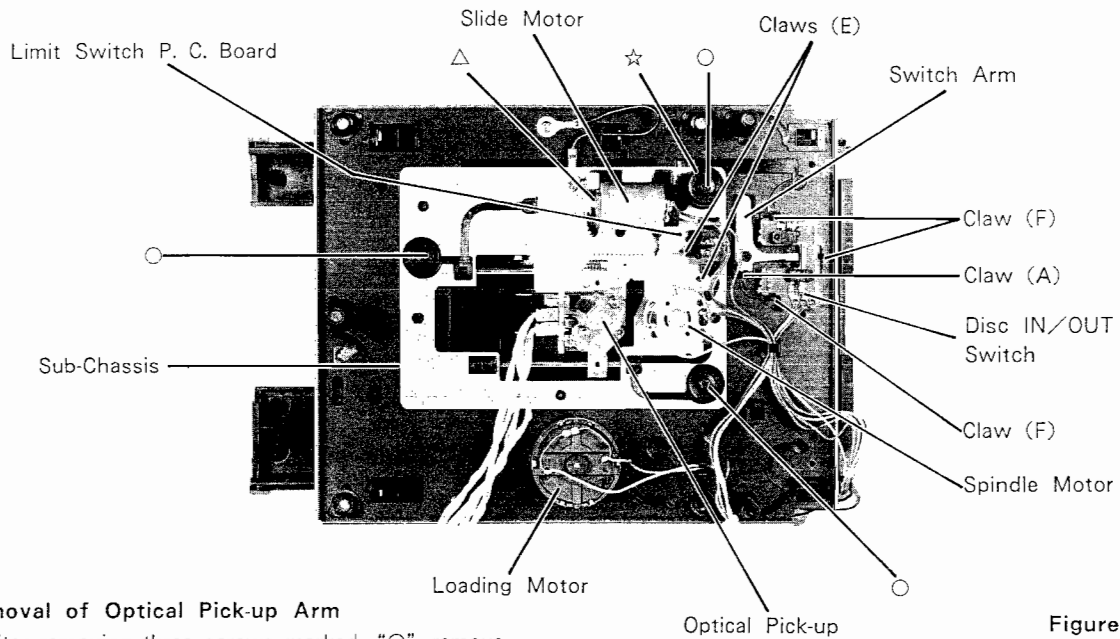

Figure 10
- (2) After disengaging one claw (A), remove the switch arm as shown in Figure 10.
(1) After removing three screws marked "O", remove the sub-chassis as shown in Figure 10.
- (1) Remove one screw marked "△" and lift up the motor as shown in Figure 10.
- (1) Remove two claws marked "E" as shown in Figure 10.
- (1) Remove three claws marked "F" as shown in Figure 10.